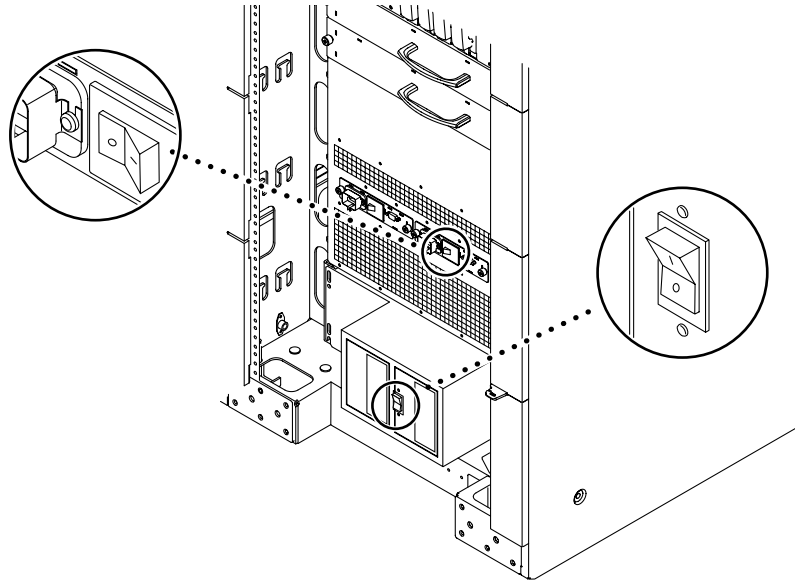

FIGURE 2-11 Sun Fire E6900 System Power Switch Locations
- a. **Turn the AC power switches off on the redundant transfer unit (RTU) modules at the front and rear of the system (FIGURE 2-11).**
4. **Power on the RTS power switches (FIGURE 2-11).**
5. Power on the AC input box power switches (FIGURE 2-11).